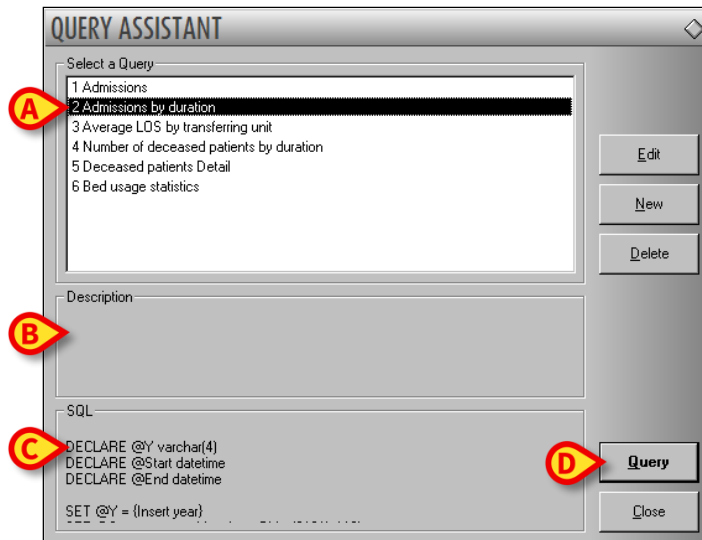

Fig 39
The name is this way highlighted (Fig 39 A).
A textual description of the query is displayed in the “Description” area (Fig 39 B).
The “SQL” area (indicated in Fig 39 C) displays the content of the query in SQL language (Structured Query Language).
- click the **Query** button (Fig 39 **D** - bottom-right).